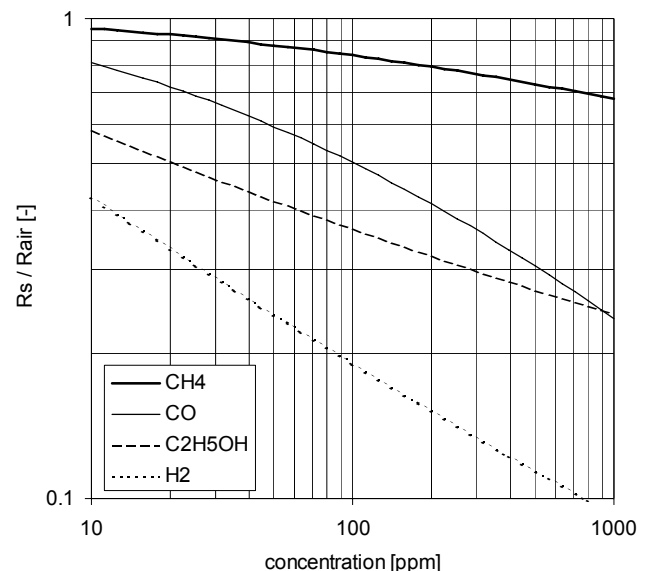

Fig. 6: Sensitivity to CO, H_2 , CH_4 , and C_2H_5OH at 25 °C and 50% RH
Fig. 6 shows the sensitivity of the MiCS-2610 to CO, H_2 , CH_4 (HC), and ethanol (VOC). Ozone is an oxidising gas and causes an increase of the sensing resistance, whereas most interfering gases are reducing gases and cause the resistance to decrease.